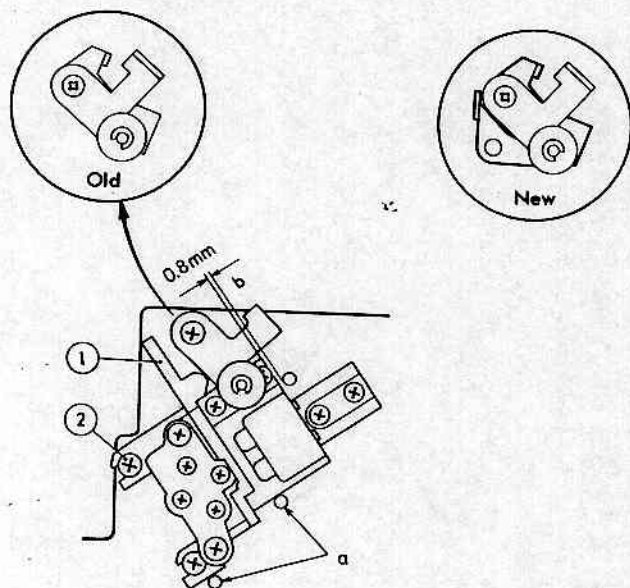
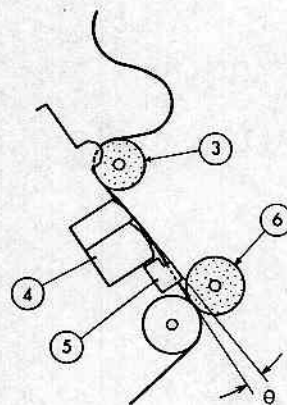

FIG. 20
FIG. 21
ATTACHING: (Refer to Fig. 20 & 21)
- Put the (1) on the sound frame as shown in Fig. 20. Then fix the (1) tentatively with (2)x3 in place where the (1) not only contacts with 'a' points but is away by 0.8mm from 'b' point.
- Adjust the head position so that the film runs straightly from (3) toward (4).
- Locate the (1) as shown in Fig. 21 and tighten it. Fig. 21 shows the film should pass not along the extension line but away from the line by 0° . The film shouldn't touch the (5) except (5)'s side surface and the (6) shouldn't touch the (5).